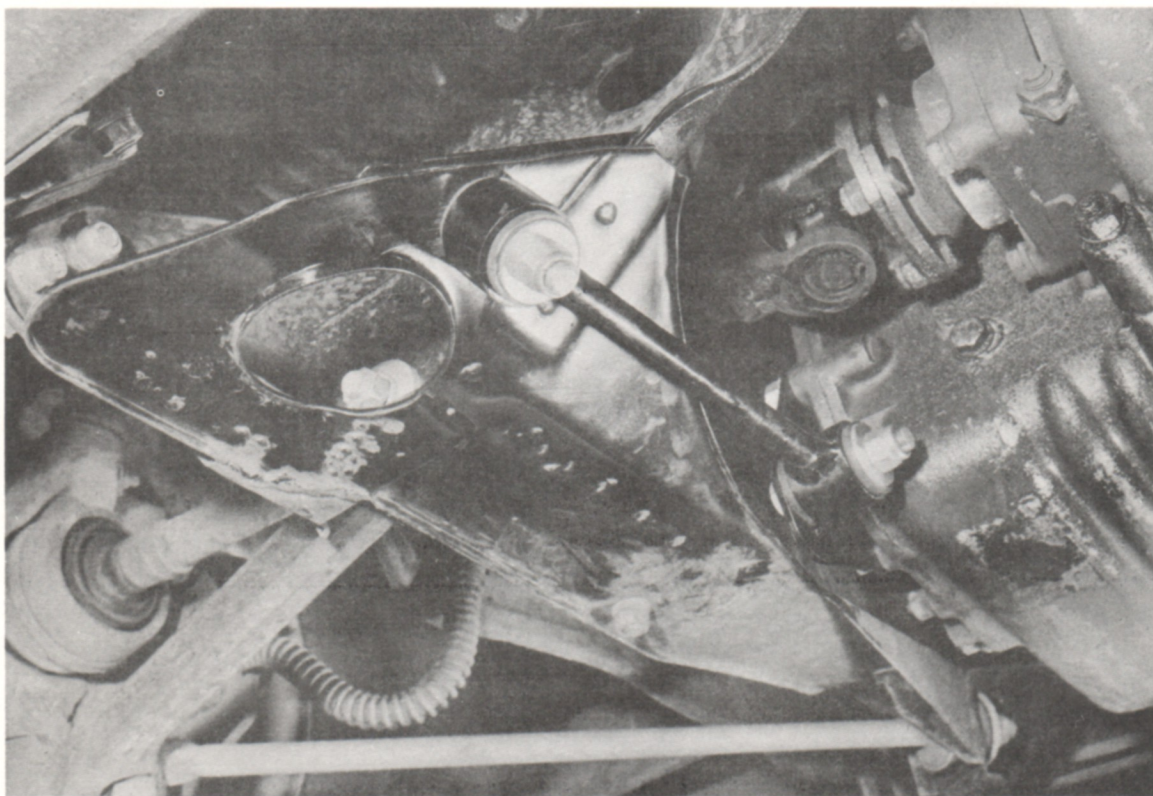

Fig. 4
7. Swing up bar assembly to subframe with bushes and sleeve installed. Mount over bolt, install thick flat washer and lock nut (Fig. 4).